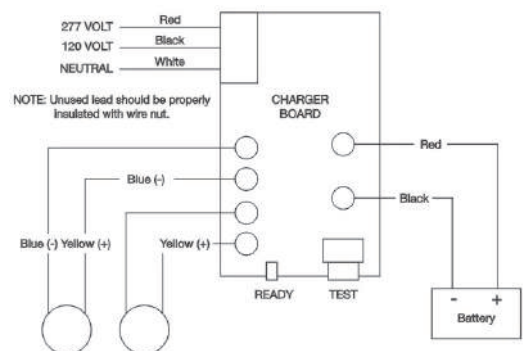

Fig 1
WIRING DIAGRAM (see Fig 1)
5. Apply continuous AC power refer to Fig 1. Press "TEST" button to check for proper operation of the unit.